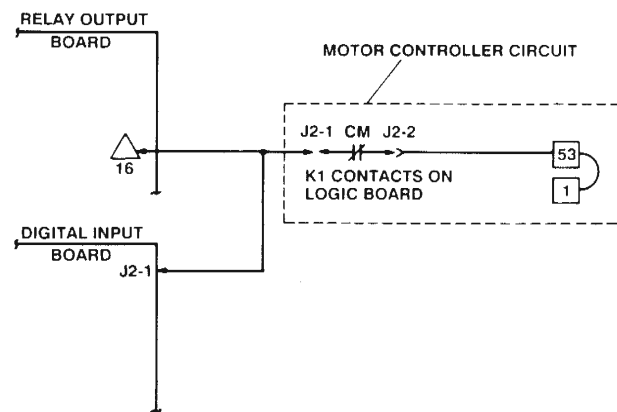

FIG. 5A – MICROCOMPUTER CONTROL CENTER - MOTOR CONTROLLER CIRCUIT
**MOTOR CONTROLLER-EXT RESET** is displayed. As long as the motor controller circuit (FIG. 5A) is interrupted the Micro Board will inhibit a chiller start. When the Trigger Board detects the heatsink temperature falling below 110°F it drives the Logic Board input (J4-10) to ground potential. This causes the High Temp LED to extinguish and K1 to energize. The closing of K1 contacts completes the motor controller circuit and the Micro Board automatically initiates a chiller start if the **COMPRESSOR** Switch is in the "RUN" position. Typically, when the chiller is shut down after having been running at 75%-100% FLA the heatsink temperature will exceed 110°F for
For proper operation, the motor current detection circuits require that the current transformers are connected to the Logic Board. The current transformers are connected to the Logic Board via P1/J1. To assure that P1 is connected to J1, an interlock circuit is employed. Connector P1 contains a jumper between pins 7 and 8. When P1 is connected to J1, pin 8 is shorted to ground via the jumper in P1. This allows relay K1 relay to remain energized. However, if P1 is not connected, pin 8 floats to +12VDC. This causes relay K1 to de-energize, interrupting the MicroComputer Control Center motor controller circuit (FIG. 5A). The Micro Board will initiate a system shutdown and display **MON XX:XX AM MOTOR CONTROLLER-EXT RESET** on the keypad display. The chiller will not be allowed to start until connector P1 is connected to J1.